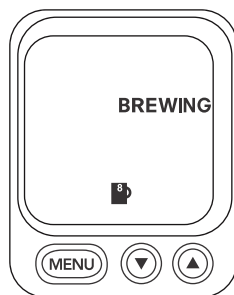

figure 5
8. Making sure your mug is in place, press the Brew button to start a cleansing cycle (unit will dispense approximately 8 oz. of water). The control panel will display BREWING, as well as the factory default brew size (see figure 5). When cycle is complete, dispose of the hot water.